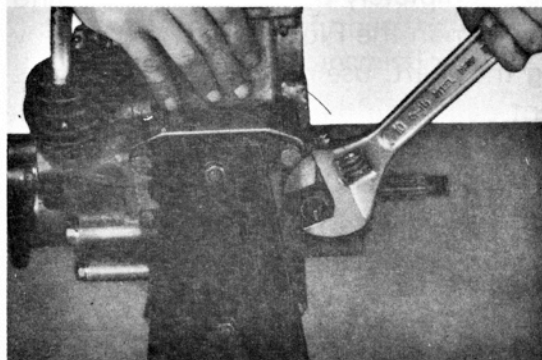

Fig. 3-5.
6) Remove the speedometer driven gear as shown in the Fig. 3-5.